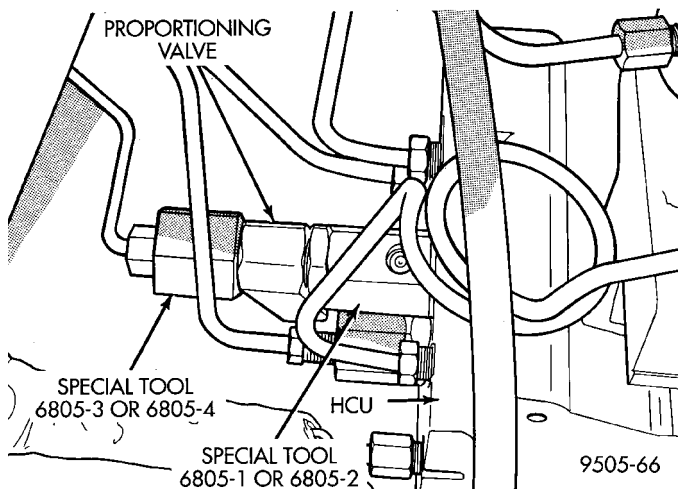

Fig. 30 Proportioning Valve Installation For Pressure Testing
(4) Install Pressure Test Fitting, Special Tool 6805-1 or 6805-2 (Fig. 30) into the outlet port of the HCU.
(5) Install proportioning valve (Fig. 30) into pressure test fitting installed in the HCU outlet port.
(6) Install Pressure Test Fitting, Special Tool 6805-3 or 6805-4 (Fig. 30) into the outlet of the proportioning valve.
(7) Connect brake tube onto pressure test fitting installed in proportioning valve (Fig. 30).